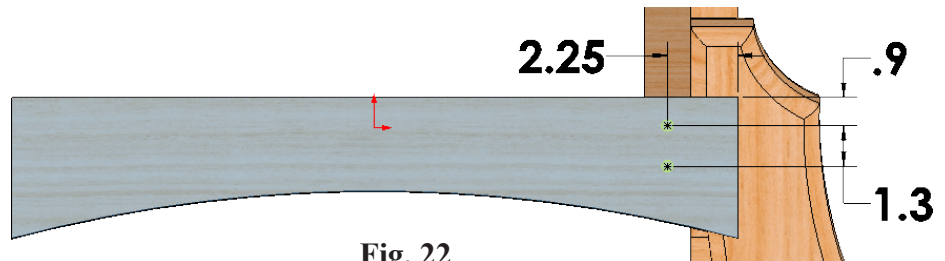

Fig. 22
Step 8. Add dimensions, **Fig. 22**.
Step 9. Click **Centerline**  (S) on the Sketch toolbar.